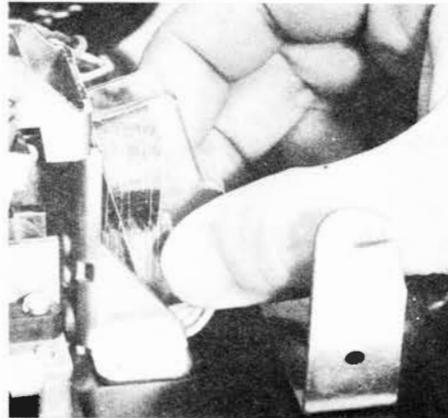

Fig. 35 - Switch-cover Assembly
4.10 The switch cover is held in place by ears on the cover which engage indentations on switch assembly mounting (see Fig. 35).